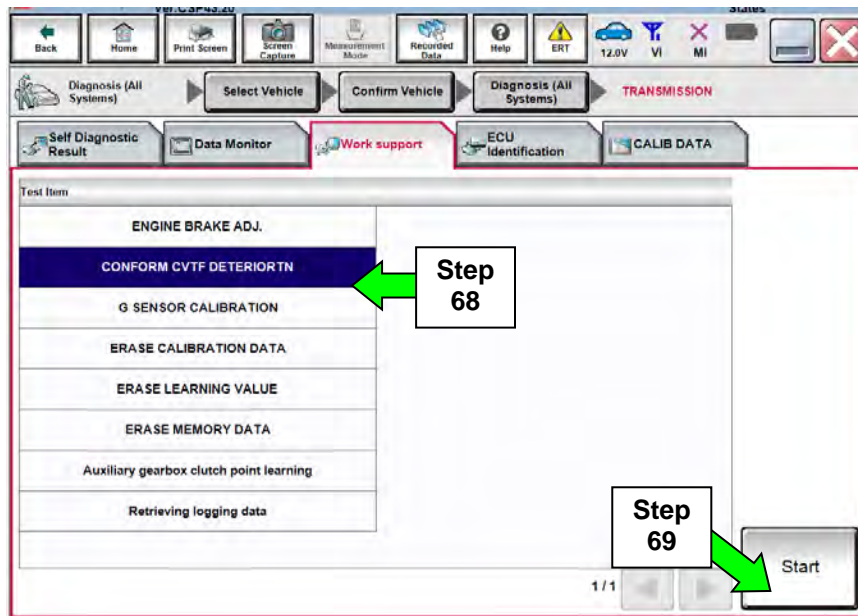

Figure 37
67. Navigate C-III plus to the screen shown in Figure 37.